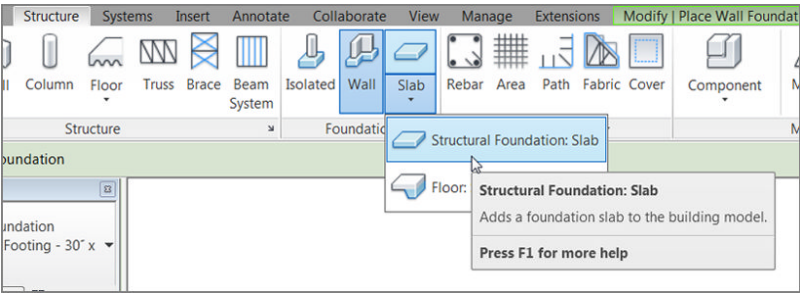

FIGURE 8.61: Choosing Structural Foundation: Slab
3. On the Foundation panel of the Structure tab, choose Slab > Structural Foundation: Slab, as shown in Figure 8.61.